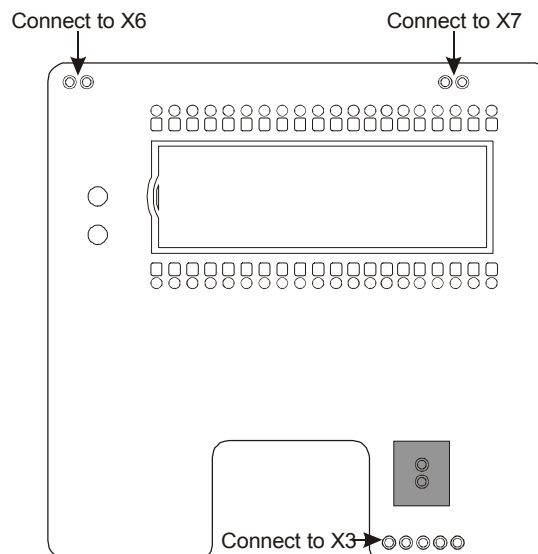

Figure 1: Display Module
3. Unplug the display module (if one exists) from the upper two 2-pin connectors (X6 and X7) and the lower 5-pin connector (X3). See Figure 1.